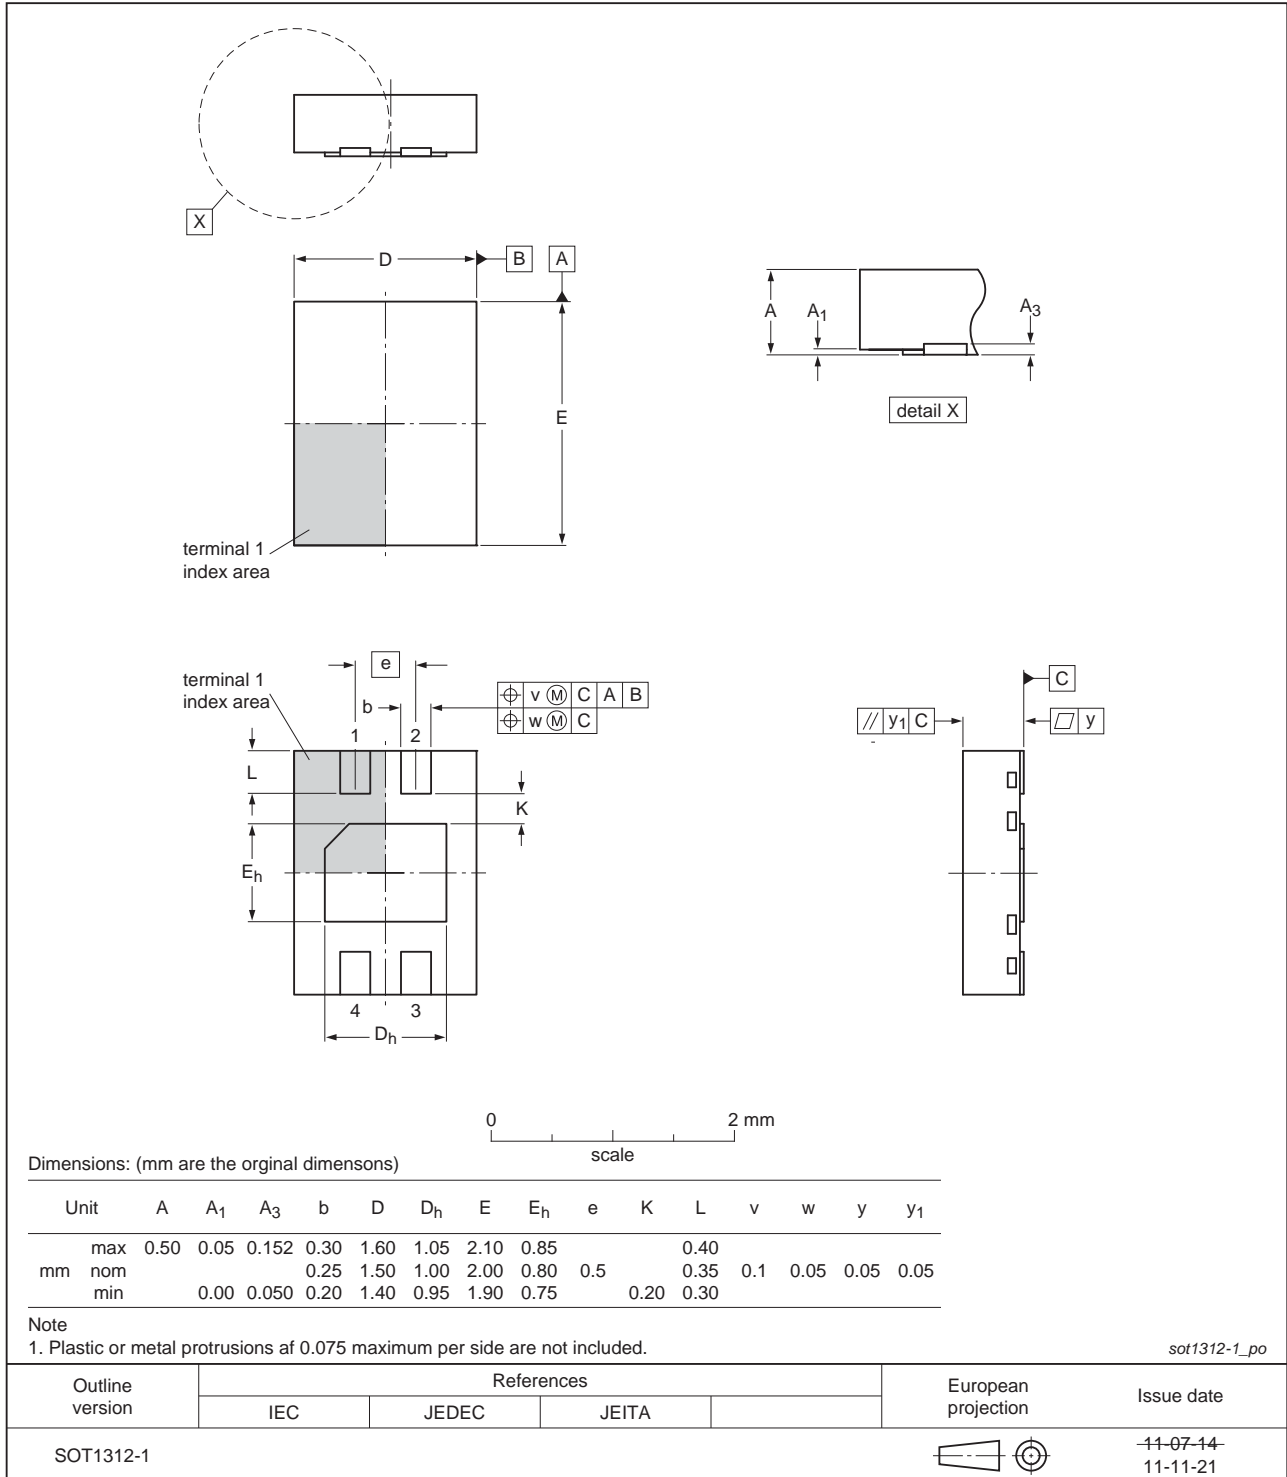

Fig 19. Package outline SOT1312AB2 (HXSON4)
**REMARK:** The timings in Fig.19 are typical timings. The NFC forum device must respect the following minimum timings and maximum timeouts.